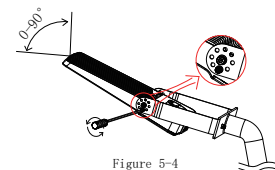

Figure 5-4
Step4: If the installation angle of the fixture needs to be adjusted, loosen the screws of the bracket and fix them again after finished adjustment, Figure 5-4;